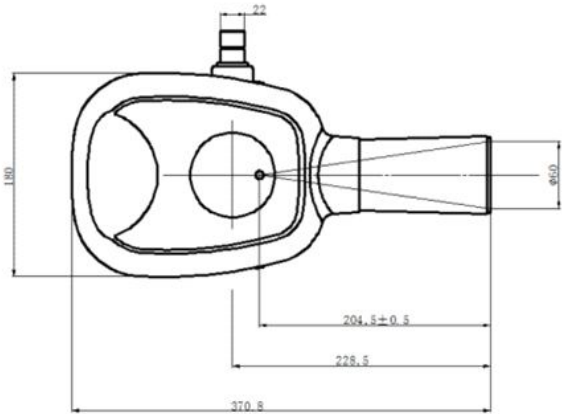

Figure 11-4
11.3 Head reference shaft, dimensions. See figure 11-4, 11-5, 11-6.